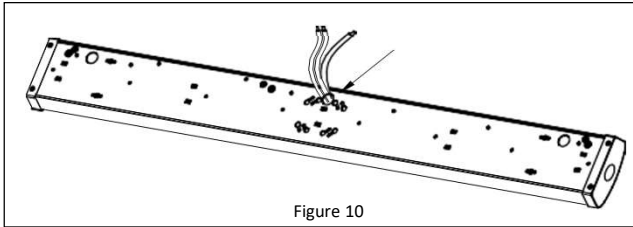

Figure 10
6. Punch through the center knockout and pull the black white and green wires through. **See Figure 10.**
Reportez-vous à la Figure 10.